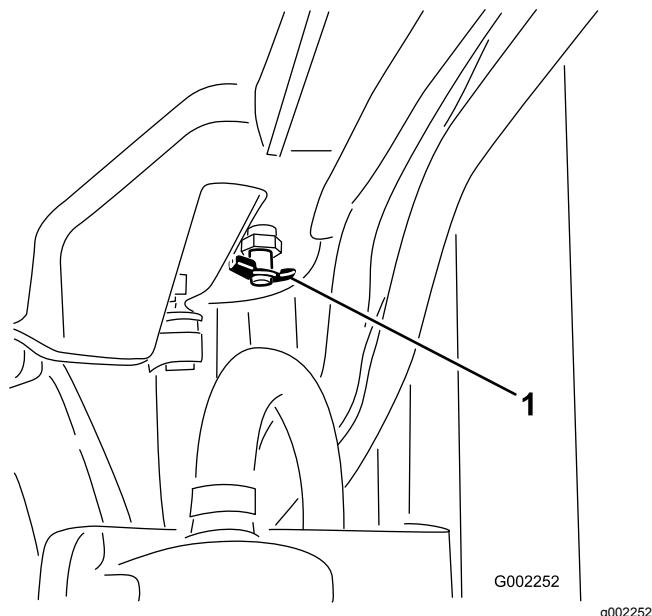

Figure 86
- Open the drain valve and drain the coolant into the pan (Figure 86).
- Close the drain valve (Figure 86).